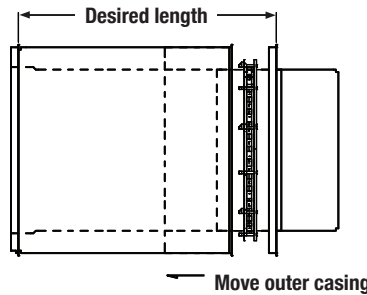

Figure 53 - Adjustable length, INSTALLATION STEP B
- b. Move up the sliding section of the outer wall to access inner wall. See **Figure 53**.